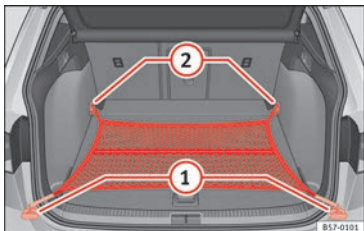

Fig. 158 In the luggage compartment: net bag hooked to the ground.
- As applicable, lift the front fastening rings »» Fig. 158 ②.
- Secure the net hooks to the fastening rings ② »» ⚠. The bag zip should be facing upwards.
- Secure the net hooks to the fastening rings ①.